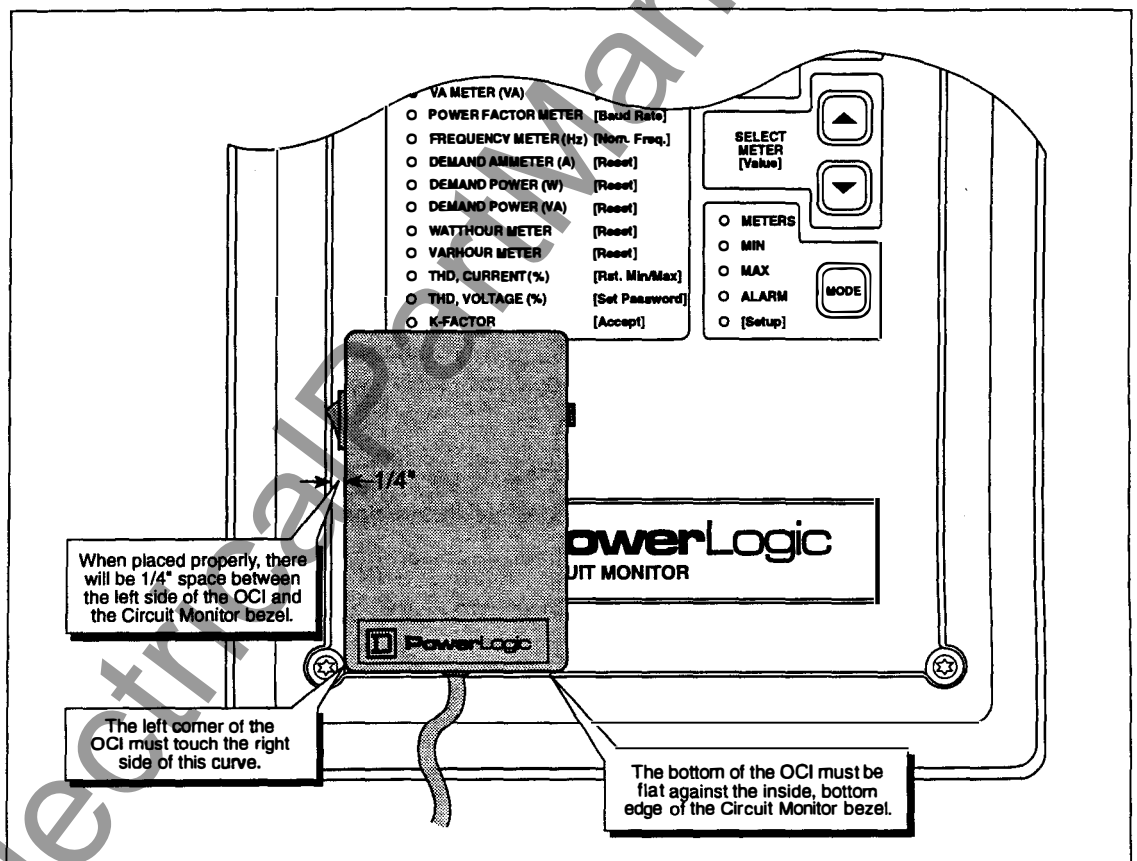

Figure J-1: Correct placement of the OCI-2000
Position the OCI-2000 so that the optical sensors on the OCI-2000 line up with the optical port on the Circuit Monitor. To do this, place the OCI-2000 in the lower left-hand corner of the Circuit Monitor front panel, so that the bottom edge of the OCI-2000 butts up flat against the inside, bottom edge of the Circuit Monitor bezel. Figure J-1 shows the correct placement of the OCI-2000. The OCI-2000 is shown in grey.
2. Check to see that the OCI-2000 power switch is in the On (I) position.
3. Check to see that the OCI-2000 is properly placed as shown in figure J-1.